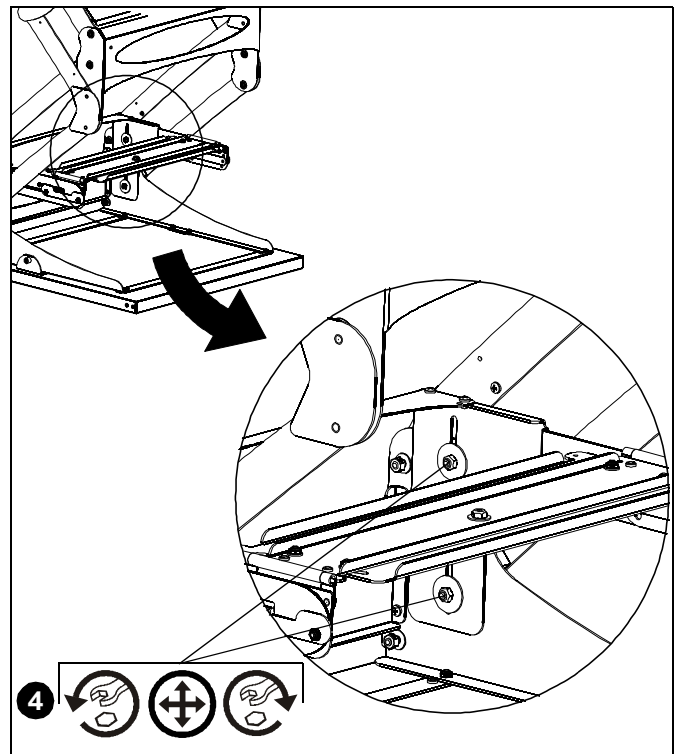

Figure 16
- Adjust and tighten nuts on bracket. (See Figure 16)